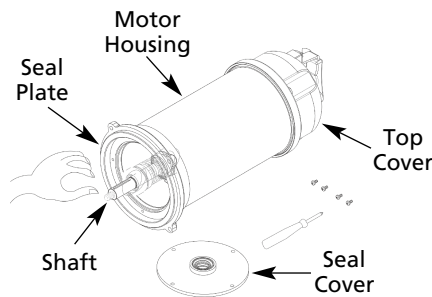
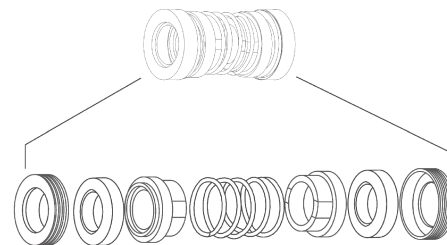

Figure 14
Figure 15 – Mechanical Seal Assembly
3. To expose the mechanical seal for examination, use the same procedure as for the oil seal. First, unscrew the seal cover (Figure 14) by unscrewing the 4 screws on the top, and take off the seal cover and o-ring. Remove the mechanical seal (Figure 15) from the shaft. Examine all mechanical seal parts and especially contact faces. Inspect seal for signs of wear such as uneven wear pattern on stationary parts and chips or scratches on the mechanical seal face. Do not interchange mechanical seal components (Figure 15). Replace the entire mechanical seal and o-ring when damage is evident.